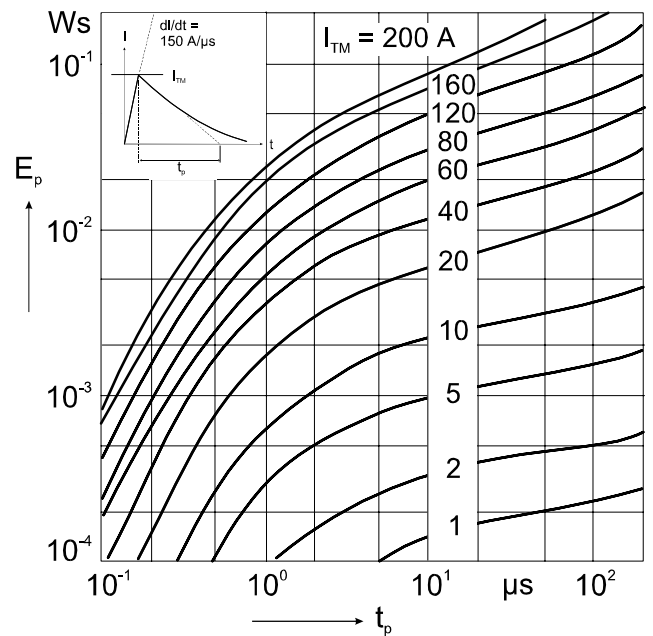

Fig. 6 Energy per pulse for single BOD element for exponentially decaying current pulse. E_p must be multiplied by number of elements for total energy.
a. The maximum junction temperature shall be calculated for a module IXBOD 1 -30R at an ambient temperature $T_a = 60^{\circ}C$, an exponentially decaying current $I_{TM} = 40A$, a pulsewidth $t_p = 2 \mu s$, an operating frequency $f = 50 Hz$ and natural convection. From the diagram Fig. 6 the energy per pulse is obtained: